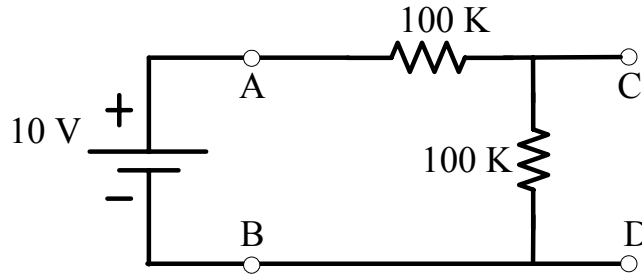

Figure 1.1: Circuit for DC voltage measurement.
- 1) Connect the circuit as shown in Figure 1.1.